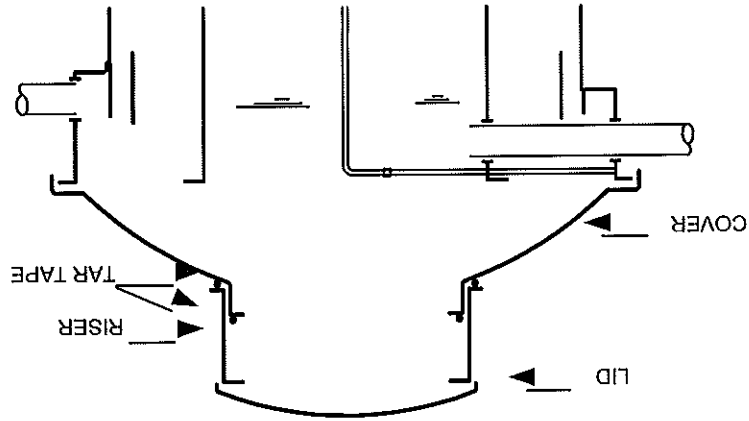

Fig. 2.2
2.45 Apply a strip of 1/2" tar tape or silicone sealant under the bottom flange of the riser. Check to make sure that the tar tape has properly sealed the bottom of the flange to the top of the *NAYADIC* cover. Apply a second strip of 1/2" tar tape or silicone on the inside of the riser as shown in Fig. 2.2.